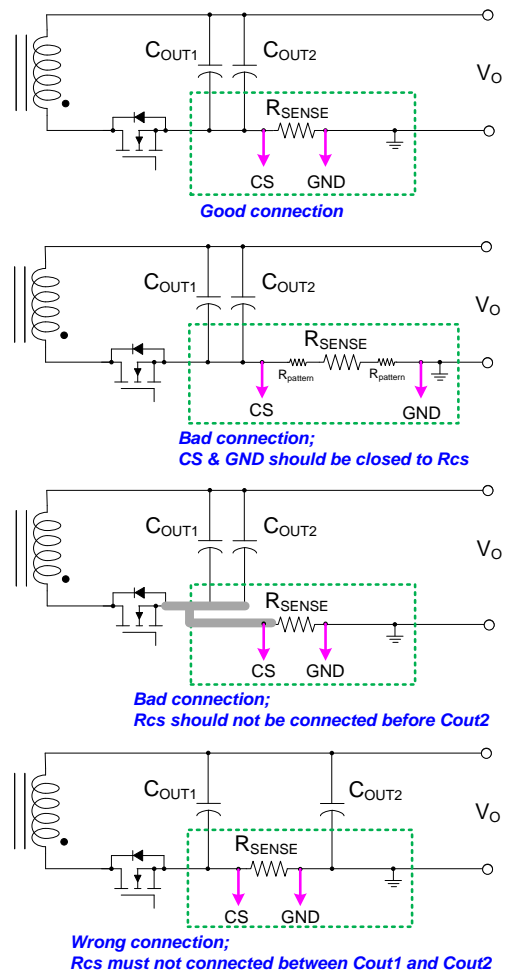

Figure 27 Examples of Sensing Resistor Connection
Printed Circuit Board (PCB) layout and design are very important for switching mode power supplies where the voltage and current change with high speed. Good PCB layout minimizes Electro-Magnetic Interference (EMI) and prevents excessive noise from surge or Electro-Static Discharging (ESD). As shown in Figure 27 C_{OUT1} and C_{OUT2} are the output capacitors; Q_2 is the secondary-side SR MOSFET. The following guidelines are recommended for layout designs.
- The sensed voltage via R_{CS} is very small value. In order to avoid offset voltage or avoid inducing switching noise on the sensed voltage, R_{CS} should be connected between ground of C_{OUT2} and power ground. And R_{CS} should be positioned as close as possible to CS pin and GND pin. Refer to Figure 27.